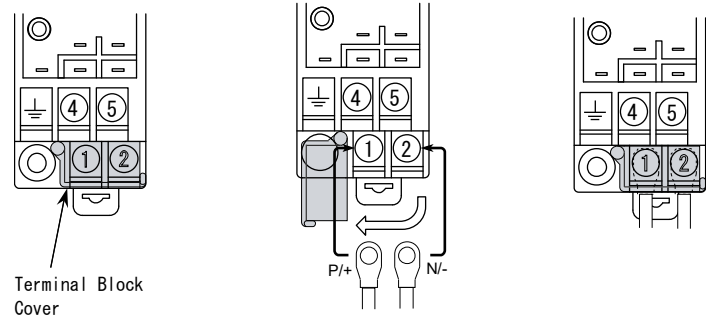

Fig. 1
(1) Loosen the terminal screw.
(2) Insert the tip of a screwdriver bit beneath the washer and push it up to make ample room to receive a cable.
The terminals for power supply connection (① and ②) are covered with a plastic plate for safety (see Fig. 1). Open the cover plate and connect the power lines to the terminals (see Fig. 2). Return the cover plate to its original position (see Fig. 3).